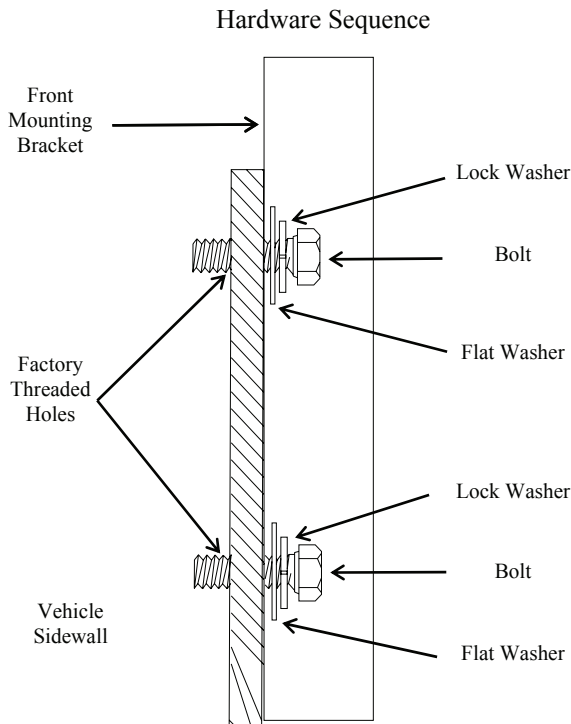

Fig. 3
- (c) Install and snug the bolts, lock washers, and flat washers to the factory-threaded holes (loose enough so the bracket can still slide). (Fig. 3)